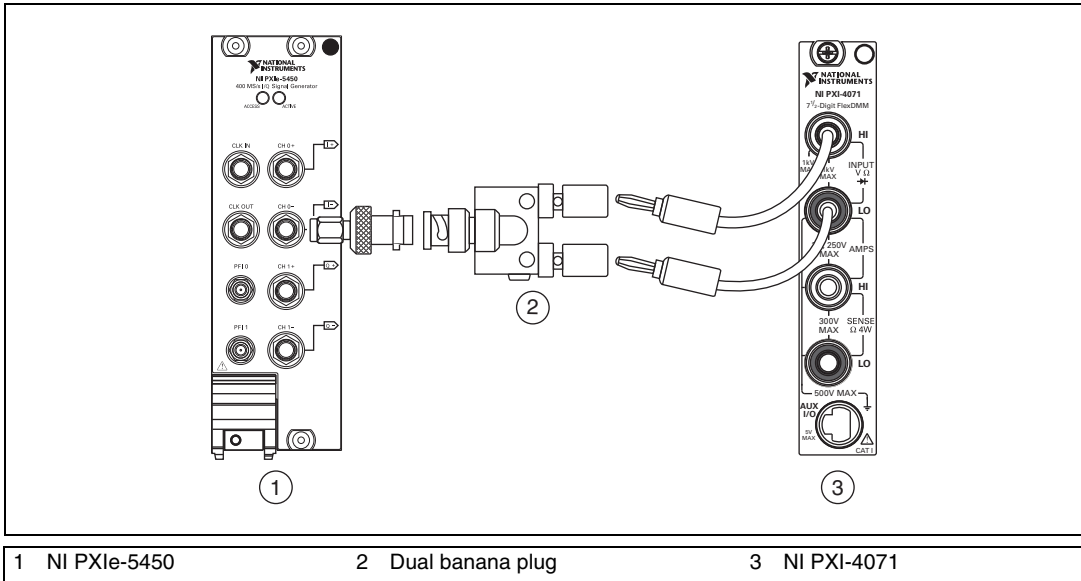

Figure 4. DC Voltage Common Mode Offset Accuracy Verification Connection (CH 0)
- Connect the NI 5450 CH 0- output to the positive output of the DMM and the cable shield ground of the NI 5450 CH 0- output to the negative input of the DMM as shown in Figure 4.